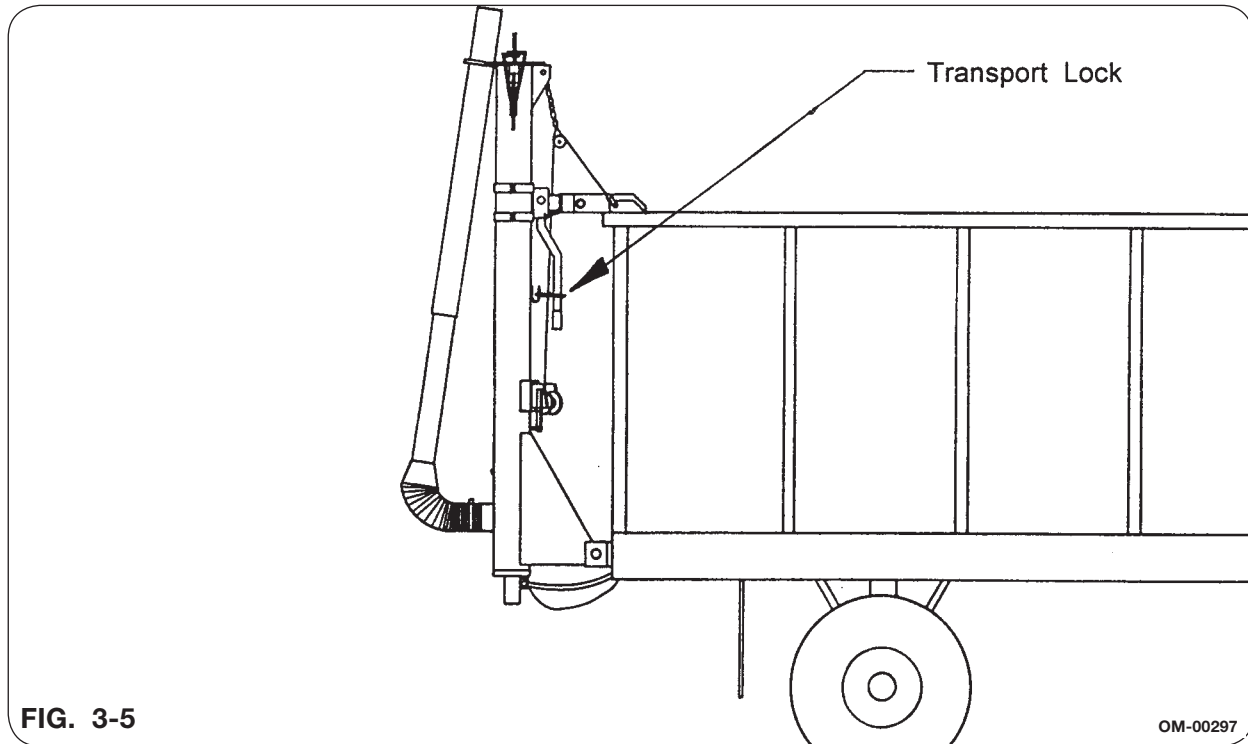

FIG. 3-5
4. Winch the auger into the transport position and latch the auger to support the frame on back of the truck bed. Be sure the latch is fully engaged and install the transport lock to the auger tube (FIG. 3-5).
- A. Release transport lock (FIG. 3-5) on latch handle.